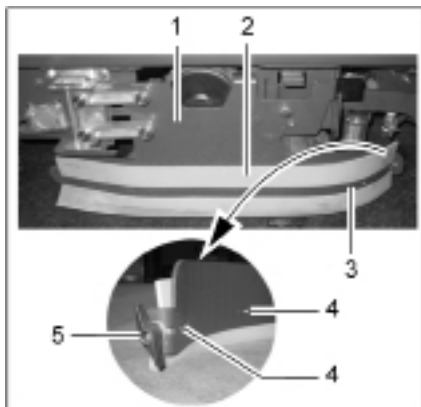

Fig 32
The deflector (Fig. 32/1) must be fixed in its service position (refer to Section 2.3.1, Point 1).
1. Loosen the wing nut (Fig. 32/5) at the end of the deflector.
2. Slide the clamping rail (Fig. 32/3) in the vehicle's driving direction (forwards) until the clamping rail hooks (Fig. 32/4) are freed and the clamping rail can be removed away from the vehicle.
3. Remove the old rubber deflector strips (Fig. 32/2).
4. Position the new rubber deflector strips (Fig. 32/2) in place.
5. Mount the clamping rail (Fig. 32/3) from the outside and slide back by hand so that the clamping rail hooks (Fig. 32/4) engage.
6. Tighten the wing nut (Fig. 32/5) so that it engages in the thread of the clamping rail (Fig. 32/3) and tightens the clamping rail firmly.